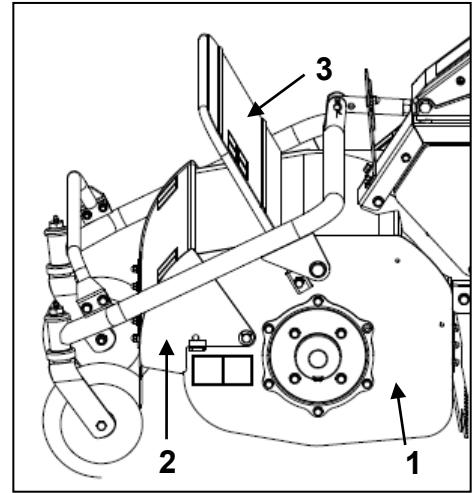

Figure 6
**ROTARY COVER (1, FIGURE 6)**
**FRONT COVER (2, FIGURE 6)**
**SAFETY COVER (3, FIGURE 6)**